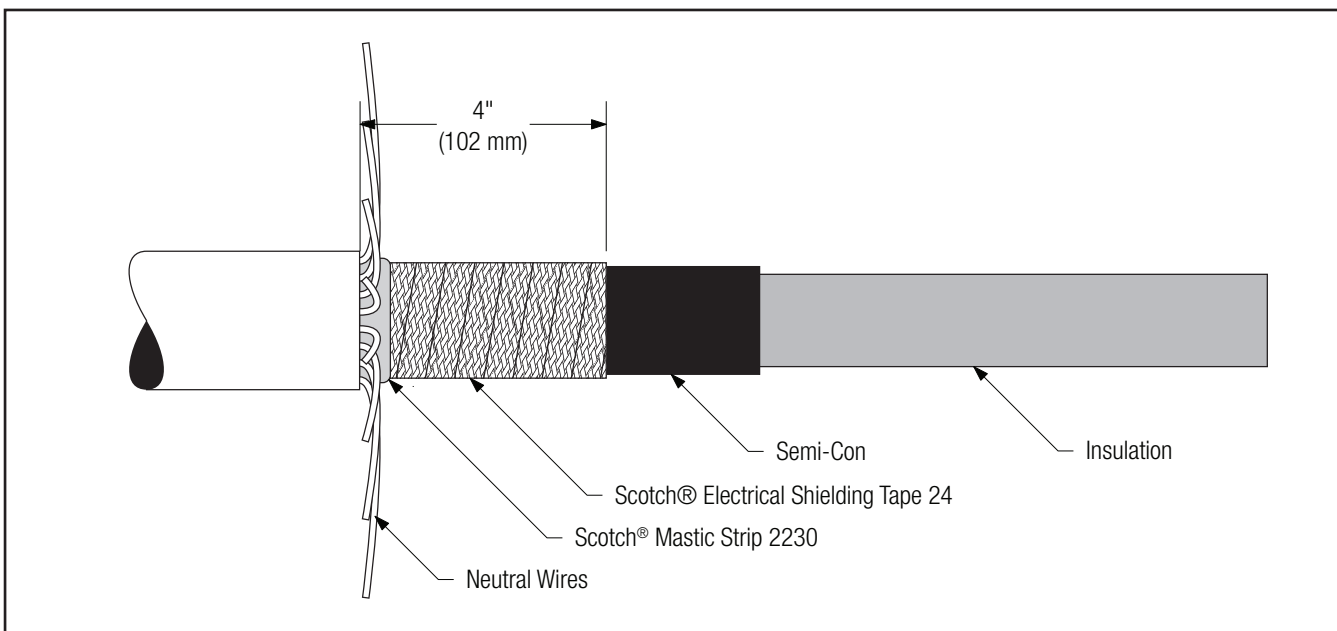

Figure 3
- 2.5 If using JCN or Flat Strap Cable:** Mark the cable semi-con 4" (102 mm) from the cable jacket edge. Apply two half-lapped layers of Scotch® Electrical Shielding Tape 24 over the cable semi-con, starting from the mastic edge out to the mark on the semi-con and back. Half-hitch to tie off (*Figure 3*).